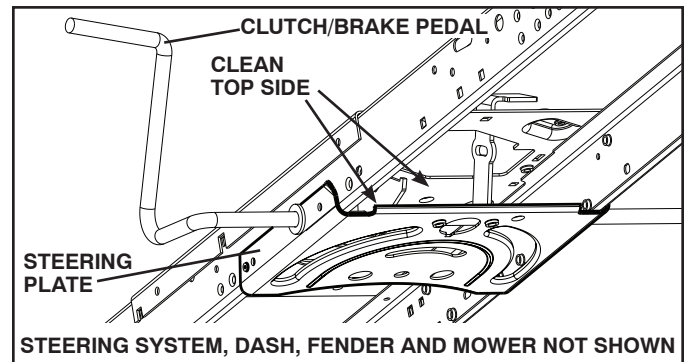

Fig. 21
- Clean debris from steering plate. Debris can restrict clutch/brake pedal shaft movement, causing belt slip and loss of drive. See Fig. 21